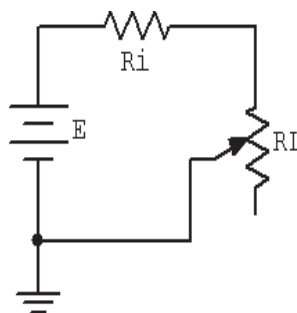

Figure 12.1
1. Consider the simple the series circuit of Figure 12.1 using  $E = 10$  volts and  $R_i = 3.3$  k.  $R_i$  forms a simple voltage divider with  $R_L$ . The power in the load is  $V_L^2/R_L$  and the total circuit power is  $E^2/(R_i+R_L)$ . The larger the value of  $R_L$ , the greater the load voltage, however, this does not mean that very large values of  $R_L$  will produce maximum load power due to the division by  $R_L$ . That is, at some point  $V_L^2$  will grow more slowly than  $R_L$  itself. This crossover point should occur when  $R_L$  is equal to  $R_i$ . Further, note that as  $R_L$  increases, total circuit power decreases due to increasing total resistance. This should lead to an increase in efficiency. An alternate way of looking at the efficiency question is to note that as  $R_L$  increases, circuit current decreases. As power is directly proportional to the square of current, as  $R_L$  increases the power in  $R_i$  must decrease leaving a larger percentage of total power going to  $R_L$ .
3. Build the circuit of Figure 12.1 using  $E = 10$  volts and  $R_i = 3.3$  k. Use the decade box for  $R_L$  and set it to 30 ohms. Measure the load voltage and record it in Table 12.2. Calculate the load power, total power and efficiency, and record these values in Table 12.2. Repeat for the remaining resistor values in the table.